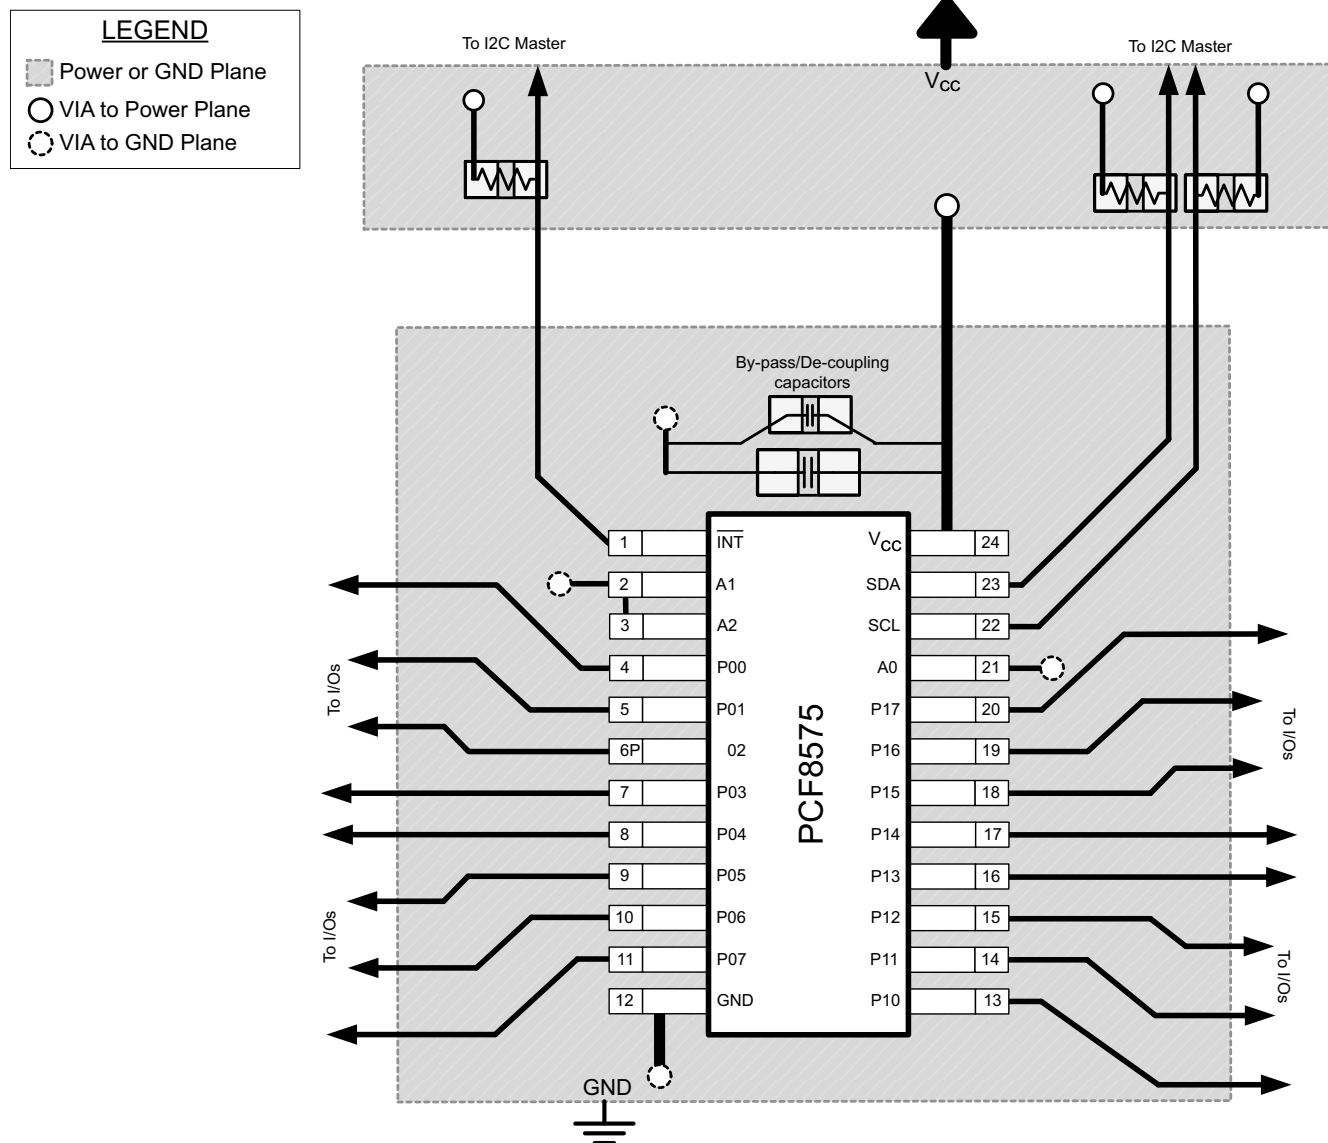

Figure 9-6. Layout Example for PCF8575
In all PCB layouts, it is a best practice to avoid right angles in signal traces, to fan out signal traces away from each other upon leaving the vicinity of an integrated circuit (IC), and to use thicker trace widths to carry higher amounts of current that commonly pass through power and ground traces. By-pass and de-coupling capacitors are commonly used to control the voltage on the V_{CC} pin, using a larger capacitor to provide additional power in the event of a short power supply glitch and a smaller capacitor to filter out high-frequency ripple. These capacitors should be placed as close to the PCF8575 as possible. These best practices are shown in Figure 9-6.
For the layout example provided in Figure 9-6, it would be possible to fabricate a PCB with only 2 layers by using the top layer for signal routing and the bottom layer as a split plane for power (V_{CC}) and ground (GND). However, a 4 layer board is preferable for boards with higher density signal routing. On a 4 layer PCB, it is common to route signals on the top and bottom layer, dedicate one internal layer to a ground plane, and dedicate the other internal layer to a power plane. In a board layout using planes or split planes for power and ground, vias are placed directly next to the surface mount component pad which needs to attach to V_{CC} or GND and the via is connected electrically to the internal layer or the other side of the board. Vias are also used when a signal trace needs to be routed to the opposite side of the board, but this technique is not demonstrated in Figure 9-6.